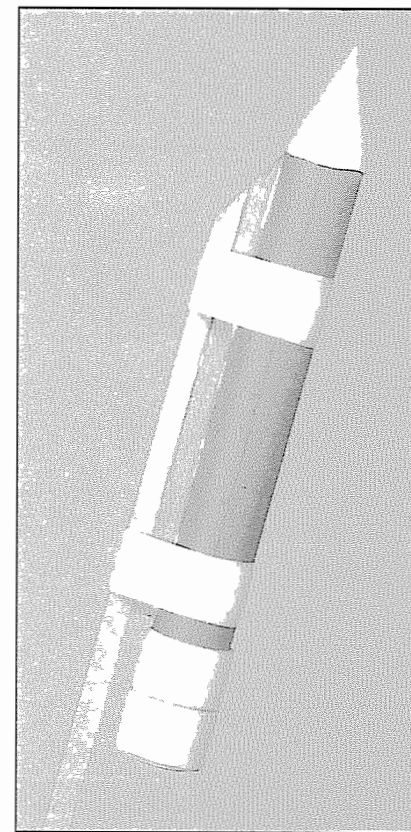
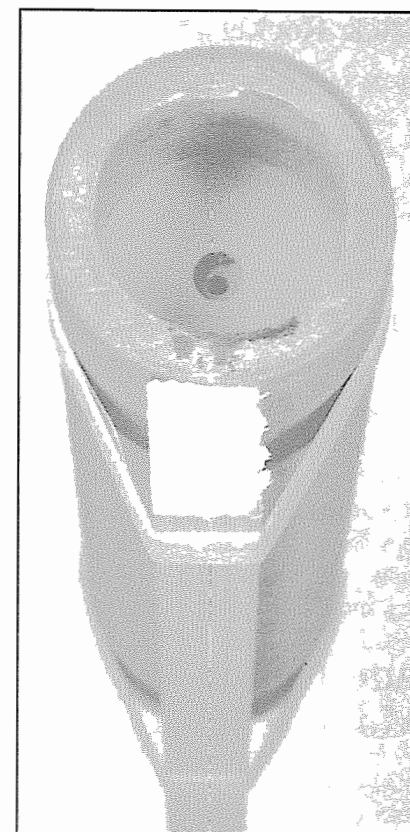

**Figure 19-18.** The nozzle-end of the E33 is built up with masking tape.
**Figure 19-19.** The E33 fits snugly into the front of the G104.
3. Starting at the mark you made in **step 2**, wrap masking tape around the nozzle-end of the E33 (**Figure 19-18**) until it fits snugly into the front of the G104 (**Figure 19-19**). Then *again* remove the E33 from the G104.